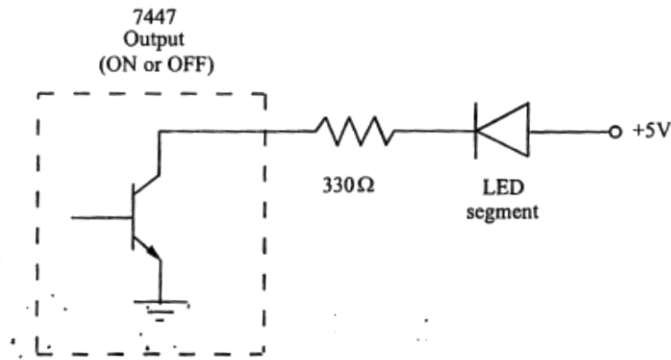

Figure 4 Output Circuit of 7447 accepting power from an LED. We will place the resistor before the LED rather than after.
If the 7447 decoder driver is now properly connected to a 7 segment LED display, the count from the counter will be displayed in an easily recognizable form. It should be noted that the decoder driver does not actually drive the segment LEDs by supplying current to them; instead, it sinks current from them. Referring to Figure 4 the LED is on when the 7447 output is low (0), allowing current to flow to ground. The output is low when the transistor is in saturation, which occurs when the base of the transistor is high. When the transistor is in cutoff (when the base is low), the output will effectively be an open circuit. In this case, no current flows and the LED is off. 330 ohm resistors are used to limit the current that is drawn by the decoder driver and to prevent burning out of the LEDs.